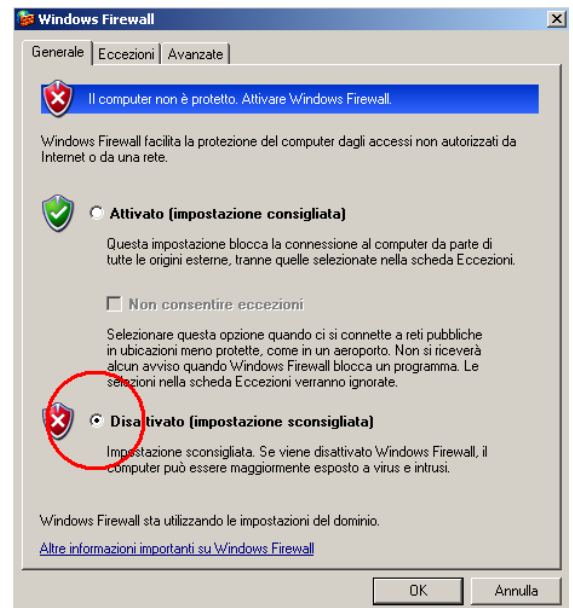

Figure 4.d – Disabling Windows Firewall
5. Create a new "Local Browser" (Figure 4.e); a new window will be opened showing the contents of the PC (Figure 4.f below). Then simply drag the directory or files from one window to the other, or alternatively delete the files.